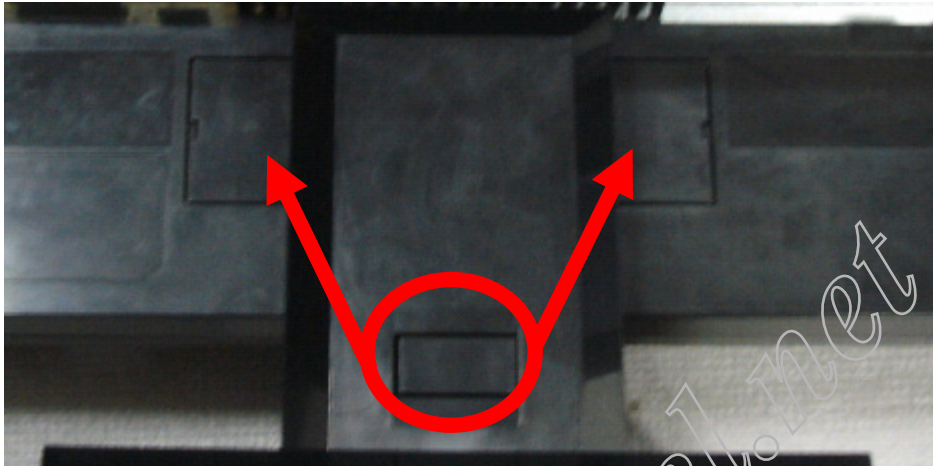

Fig 1
1. Remove the cover hinge as the following indicator. (Fig 1)